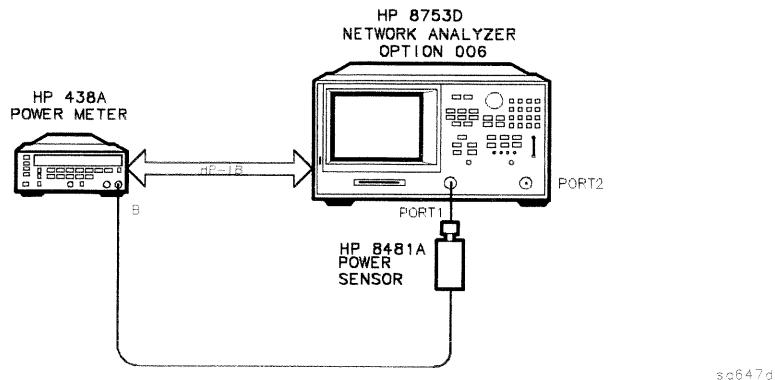

Figure 3-7. Connections for Sampler Correction at 6 GHz
19. **For Option 006 Instruments Only:** When the analyzer displays CONNECT 6 GHz SENSOR B TO PORT 1, make the connections as shown in Figure 3-7. Then press **CONTINUE**. This part of the test will take about 20 seconds.